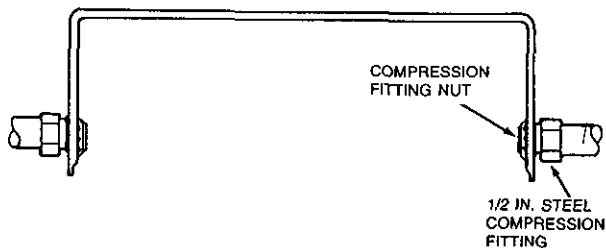

FIGURE 32
1. Secure the conduit to the detector bracket using the two 1/2 in. steel compression fittings on the series detector bracket or the single 1/2 in. steel compression fitting on the terminal detector bracket. See Figure 32.